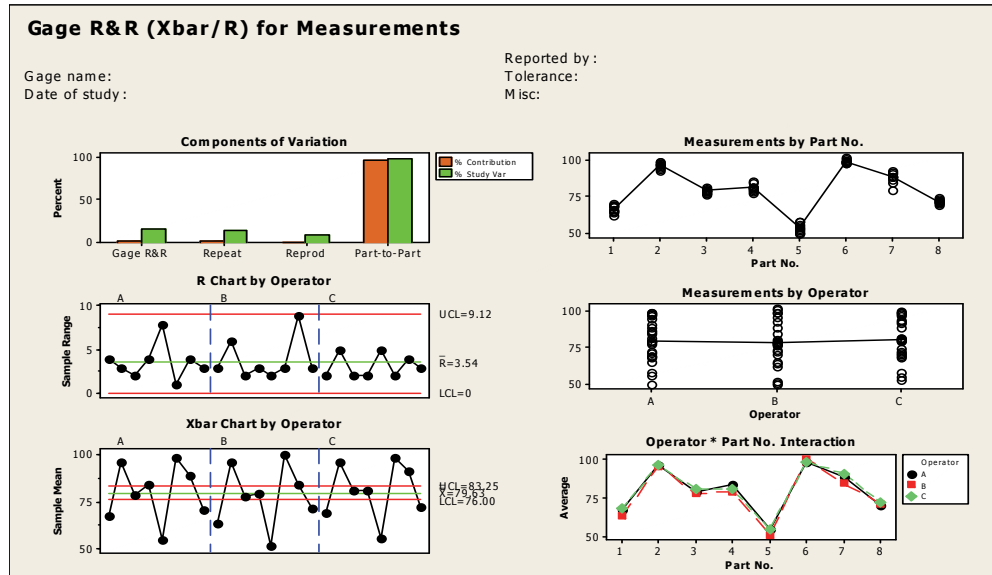

Figure 7.16: Graphs for Gage R&R: Xbar and R Method GAGE3.MTW Data
The Gage R&R: Xbar and R analysis provides graphs for the analysis of measurement data. Figure 7.16 shows the graphs for this example.
**INTERPRETATION OF PLOTS IN FIGURE 7.16**
The Gage R&R study produces six graphs shown in Figure 7.16. These graphs provide additional insight for improvement opportunities. Each graph in Figure 7.16 is described below.